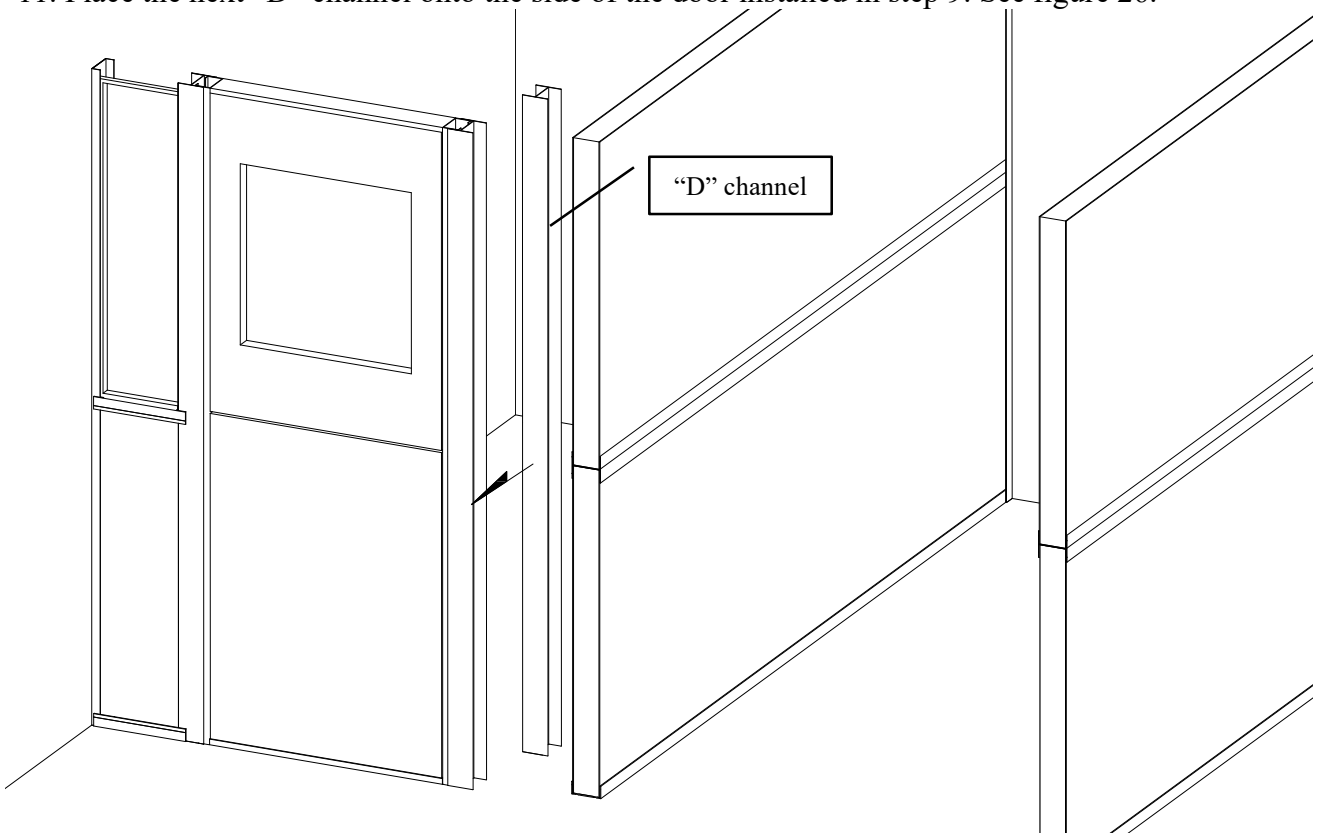

Figure 26
11. Place the next “D” channel onto the side of the door installed in step 9. See figure 26.